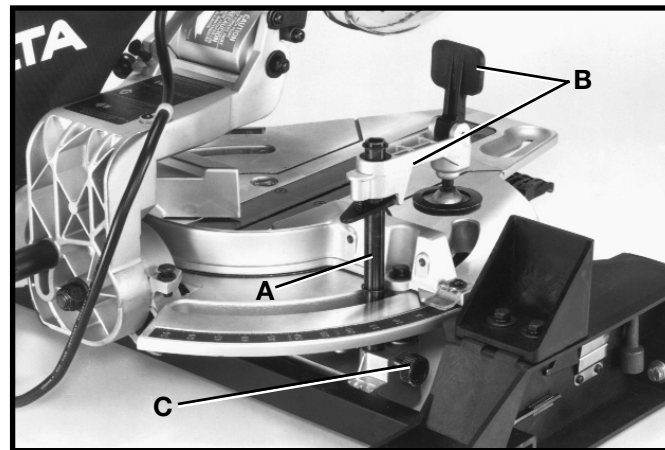

Fig. 24
1. Insert post (A) Fig. 24, of work clamp assembly (B) down through hole in the base of the machine as shown and lock in place by tightening lock knob (C). The work clamp (B) Fig. 24, can be used on the right or left side of the cuttinghead.